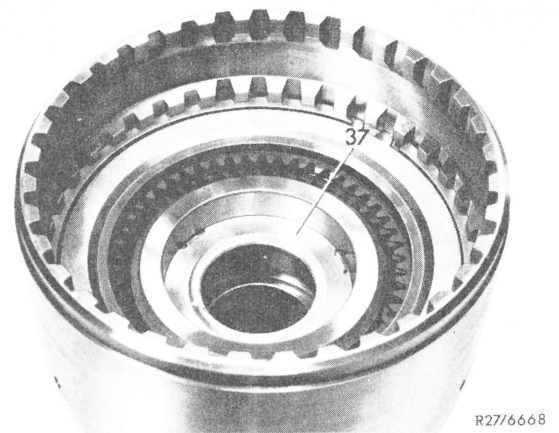

Fig. 10
12 Pull out thrust washer (37) (Fig. 10).
24 Insert thrust washer (37) coated with grease (Fig. 10).